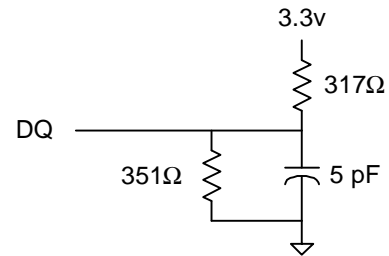

Fig. 2 OUTPUT LOAD EQUIVALENT
- Output loading is specified with  $CL=5pF$  as in Fig. 2